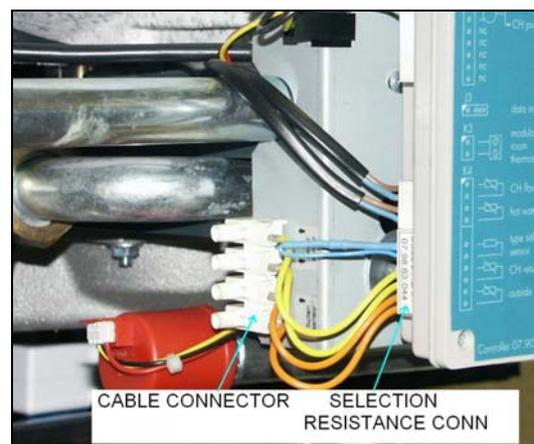

Fig 2
- c) Remove the selection resistance from the control unit. Push the wires of the cable connector K4b into the connector beneath the recognition resistance. First find two yellow wires (return sensor) and then two orange wires (outside sensor) beneath this resistance. Put the connector of the selection resistance back into the control unit (Fig 2).